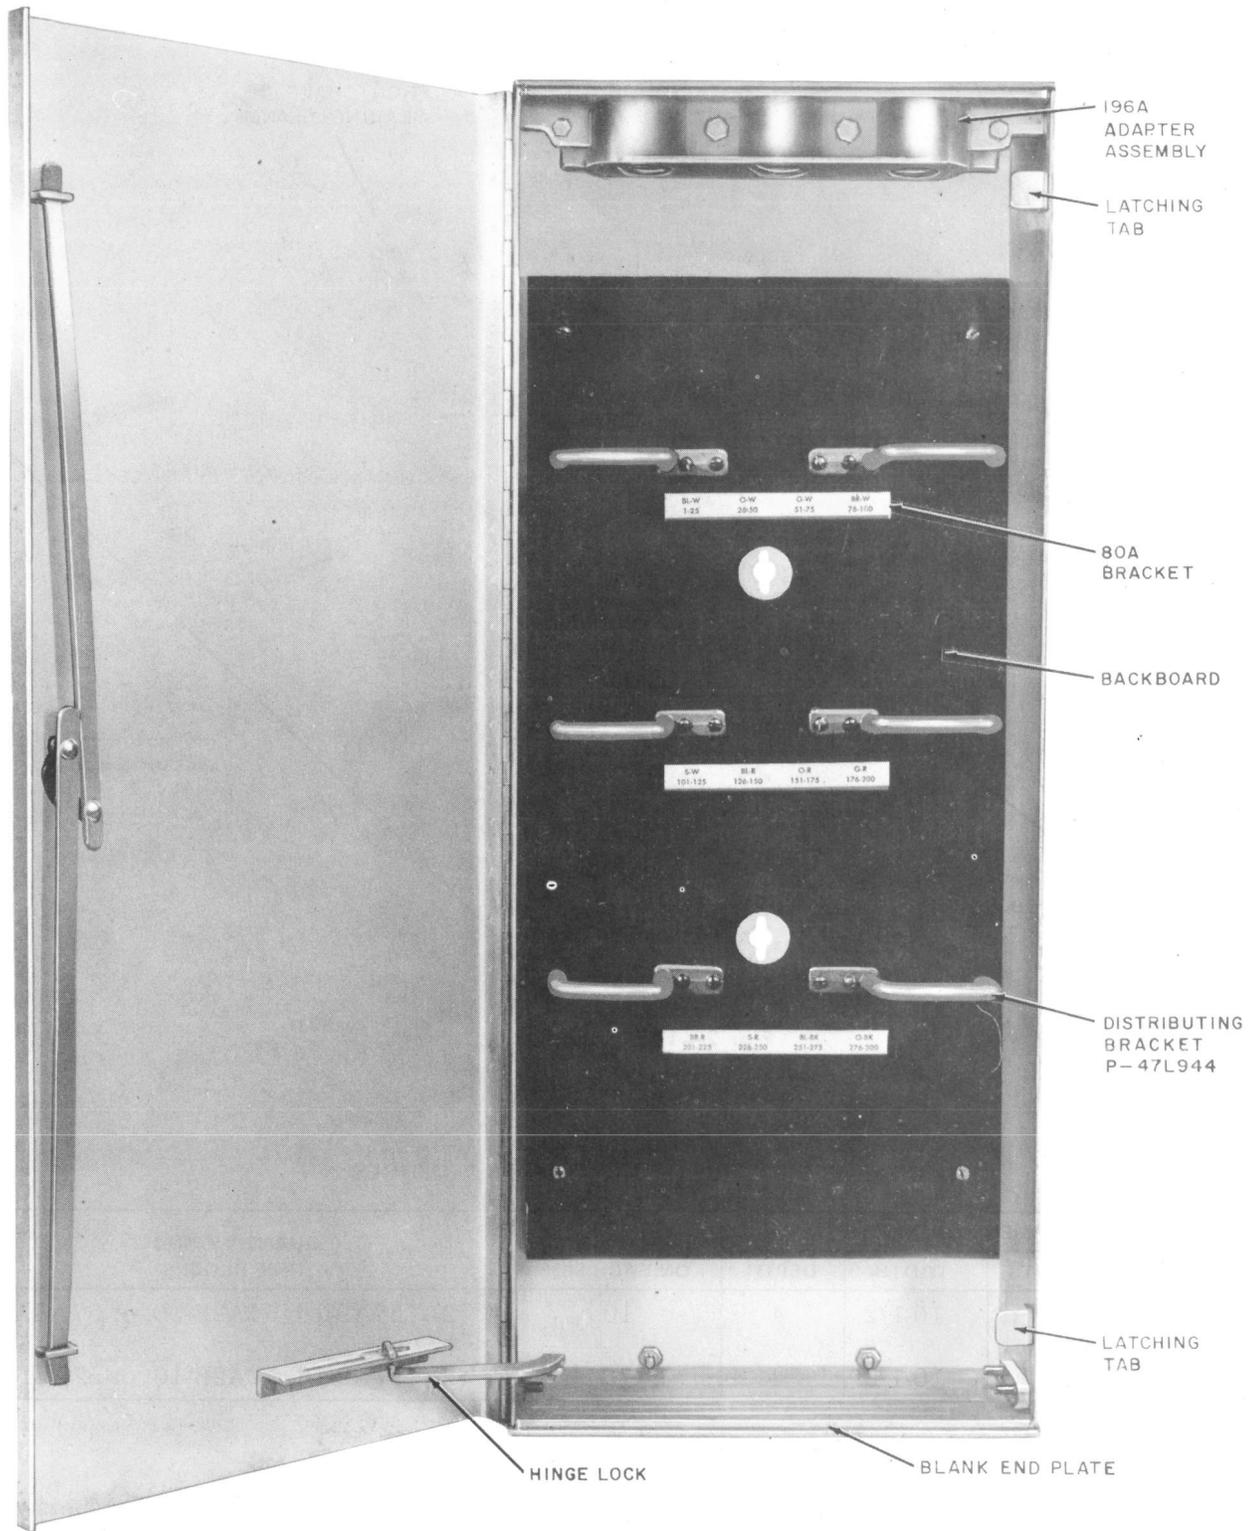

Fig. 3—5B4-300 Closure
2.03 The 5A4-200 and 5B4-300 closures (Fig. 3) consist of weatherproof metal box having a hinged cover and mounting bracket for either pole or wall mounting and provides the following features: